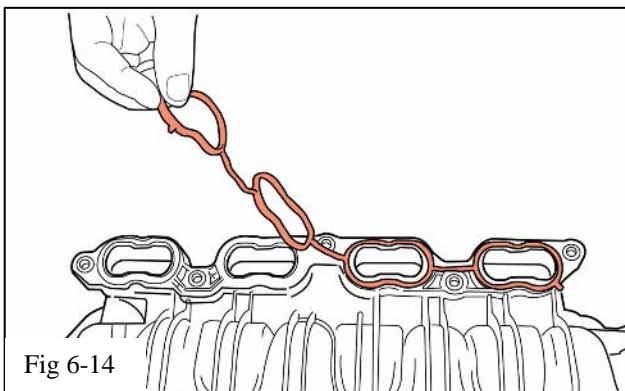

Fig 6-14
- (o) Carefully remove the gaskets from the bottom of the intake manifold, clean and set aside they will be reused in step 12. Discard the intake manifold and remaining attached parts (Fig 6-14).